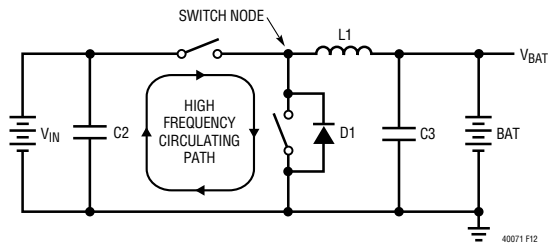

Figure 12. High Speed Switching Path
For maximum efficiency, the switch node rise and fall times should be minimized. To prevent magnetic and electrical field radiation and high frequency resonant problems, proper layout of the components connected to the IC is essential. (See Figure 12.) Here is a PCB layout priority list for proper layout. Layout the PCB using this specific order.
12. For best current programming accuracy provide a Kelvin connection from R_{SENSE} to CSP and BAT. See Figure 12 as an example.